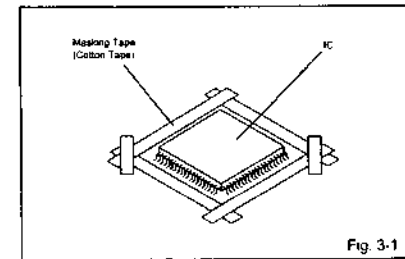

Fig. 3-1
- Put the Masking Tape (cotton tape) around the Flat Package IC to protect other parts from any damage. (Refer to Fig. 3-1.)